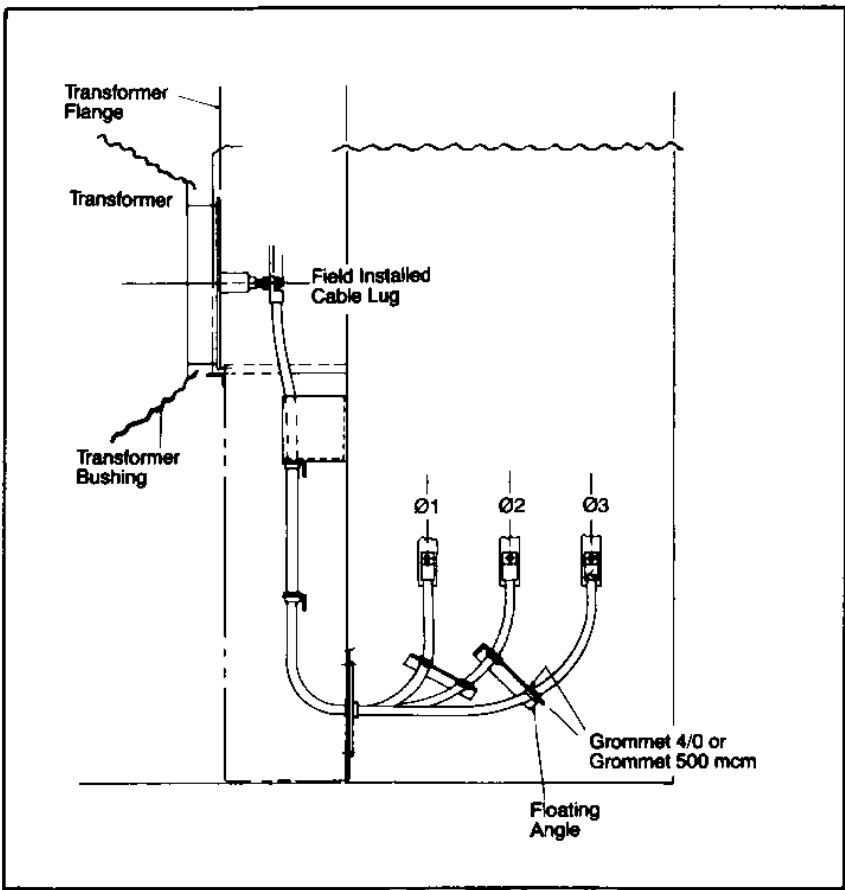

Figure 7. Cable Connection to Liquid Immersed Transformer
5. Connect cable to the transformer. Fig. 7.
Precut factory installed cables with suitable cable lugs are provided for making connections to a liquid-filled transformer, as shown in Fig. 7. To insure ease of assembly and proper